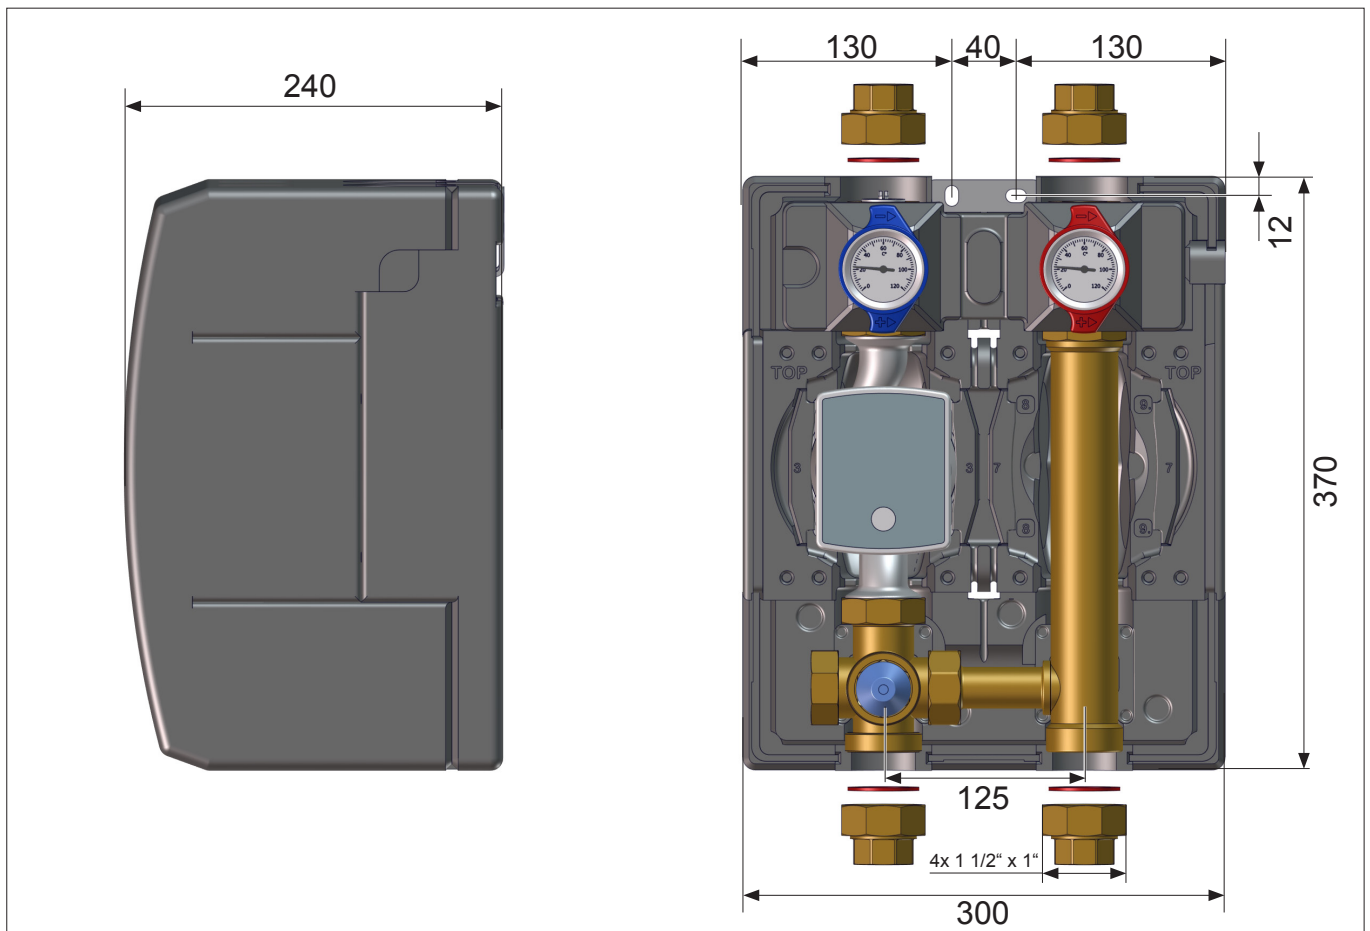

Fig. 2: Dimensions (mm)
- Draw on the drilling points for assembling the Boiler charging station (see Fig. 2 on page 7).